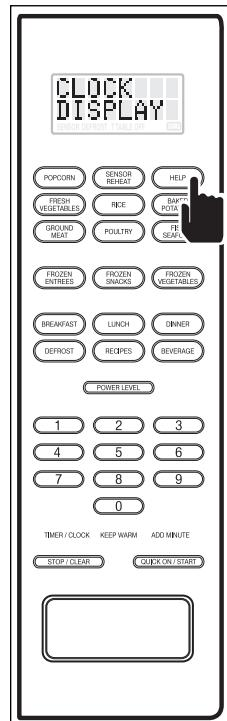

Figure 3-21.
1. Press the HELP key and five help features will flash on the display, the fifth one will read "CLOCK DISPLAY - ON OR OFF - PRESS 5" (See Figure 3-21).